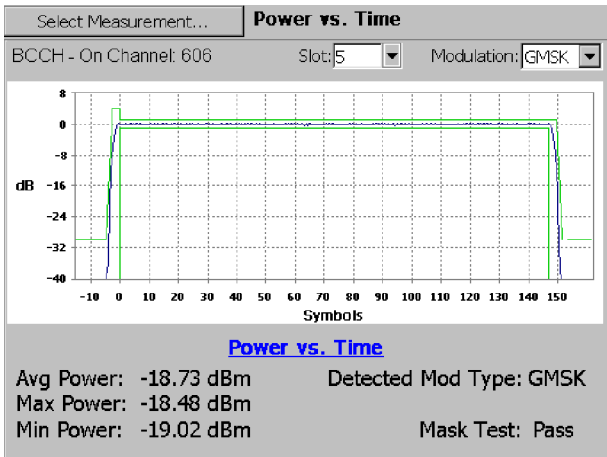

Figure 3-42: GSM/EDGE Power vs. Time measurement
4. Tap **Power vs. Time**. See Figure 3-42.